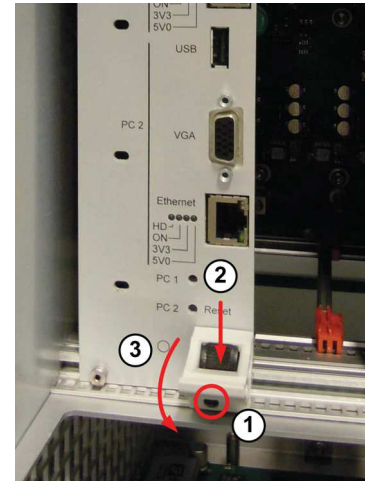

Fig. 7.20 Handle
- 3 Using tools 1/4 or tool 9, loosen the screws in the upper and lower handle, marked with 1 in Fig. 7.20 \(p. 127\) - these two screws are fixing the module to the frame.
Release the two handles (upper handle and lower handle) by pushing the black button into the handle - marked as "2" in Fig. 7.20 \(p. 127\). While doing this simultaneously on the two handles, move the upper handle upwards and the lower handle downwards ("3"). This will pull the module out of the connector.